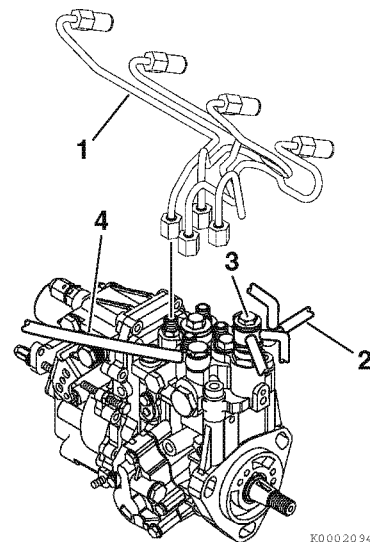

Figure 7-9
5. Remove the high-pressure fuel injection lines as an assembly (1, **Figure 7-9**).
8. Disconnect the coolant lines from the cold start device (3, **Figure 7-9**) on the fuel injection pump. Plug the open ends of the lines to minimize leakage and prevent contamination. This cooling water pipe is not used in electronically controlled engines 3TNV84T-Z, 3TNV88-Z, 4NV84T-Z, 4TNV94L-Z, 4TNV98-Z, 4TNV98-E, 4TNV98-A, and 4TNV98T-Z.
9. Disconnect the fuel return lines from the fuel return fitting (2, **Figure 7-9**). Plug the open ends of the lines to minimize leakage and prevent contamination.
10. Remove the fuel supply line (4, **Figure 7-9**). Plug the open end of the line to minimize leakage and prevent contamination.